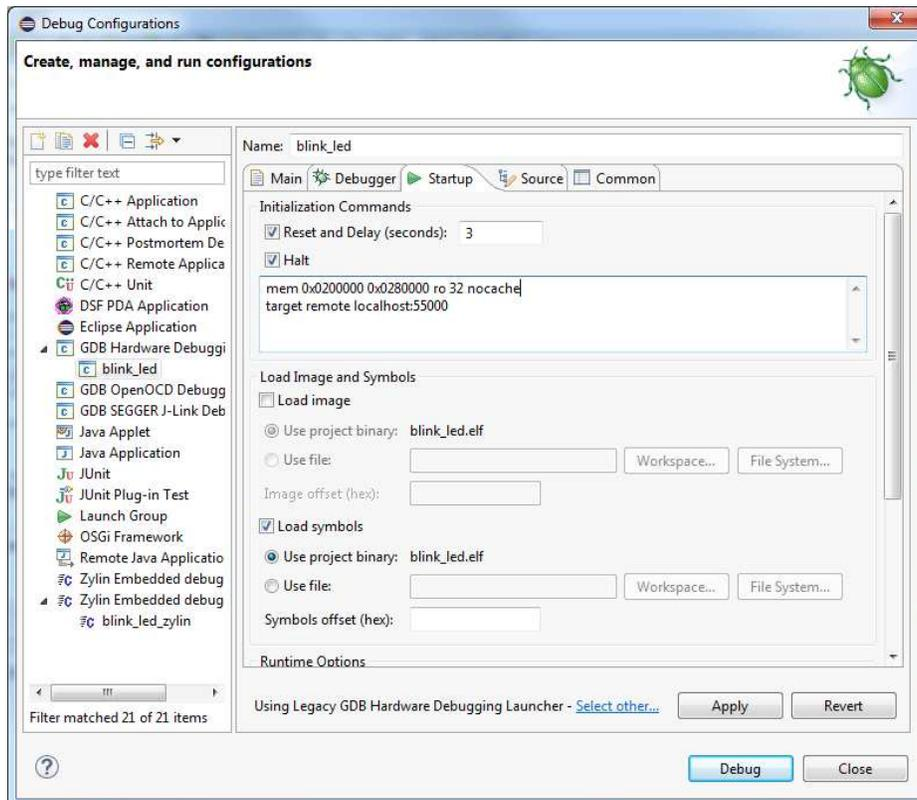

Figure 13. Settings for Startup Tab
7. Select the 'Startup' tab and configure the same setting as shown in Figure 13. Make sure that 'Load image' is unchecked, and that the same commands in the 'Initialization Commands' window are added. Then click 'Apply' and close the Debug Configurations window.